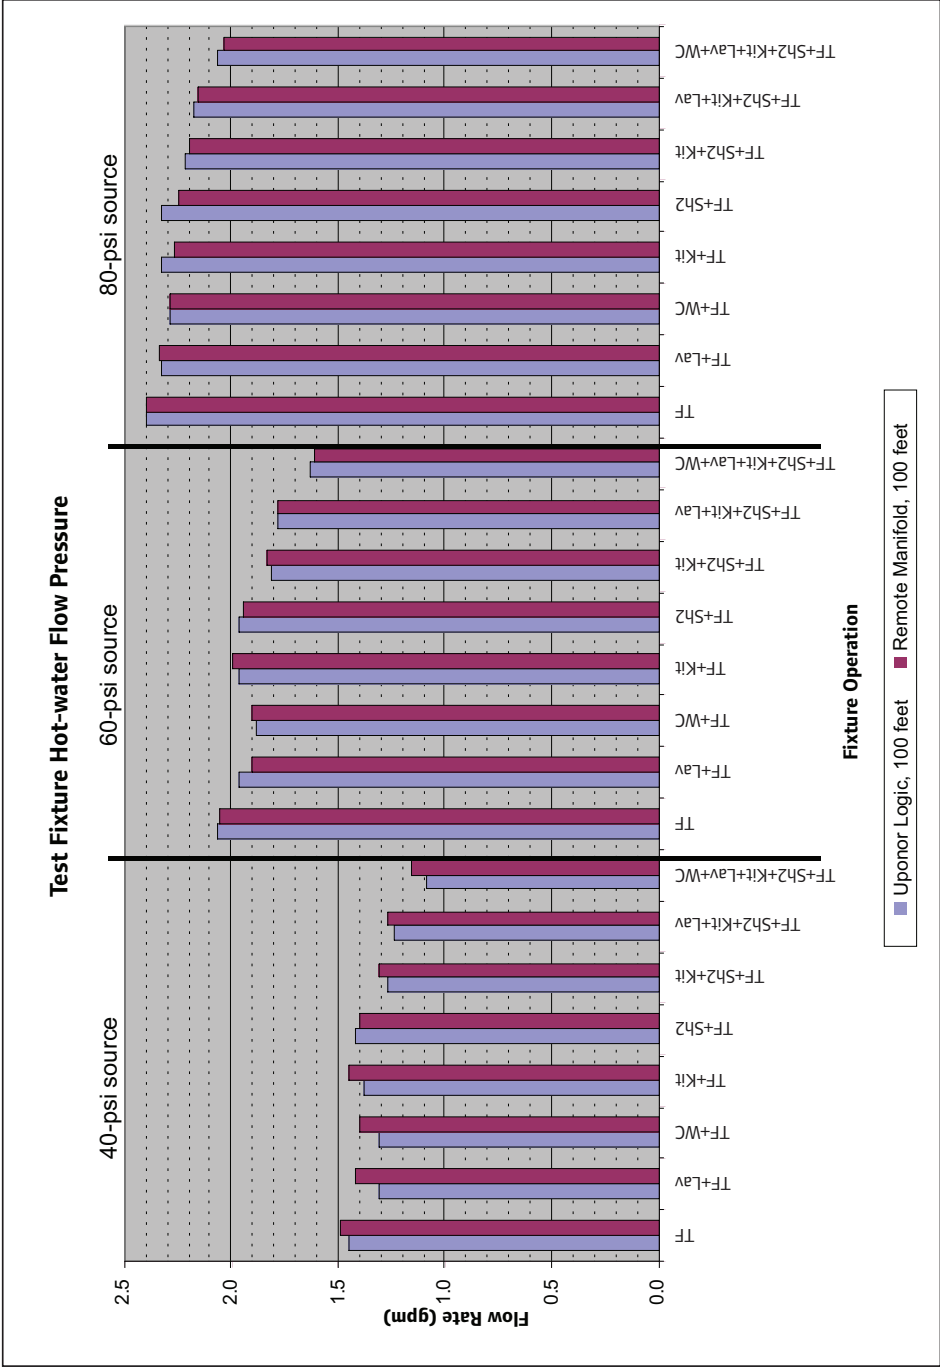
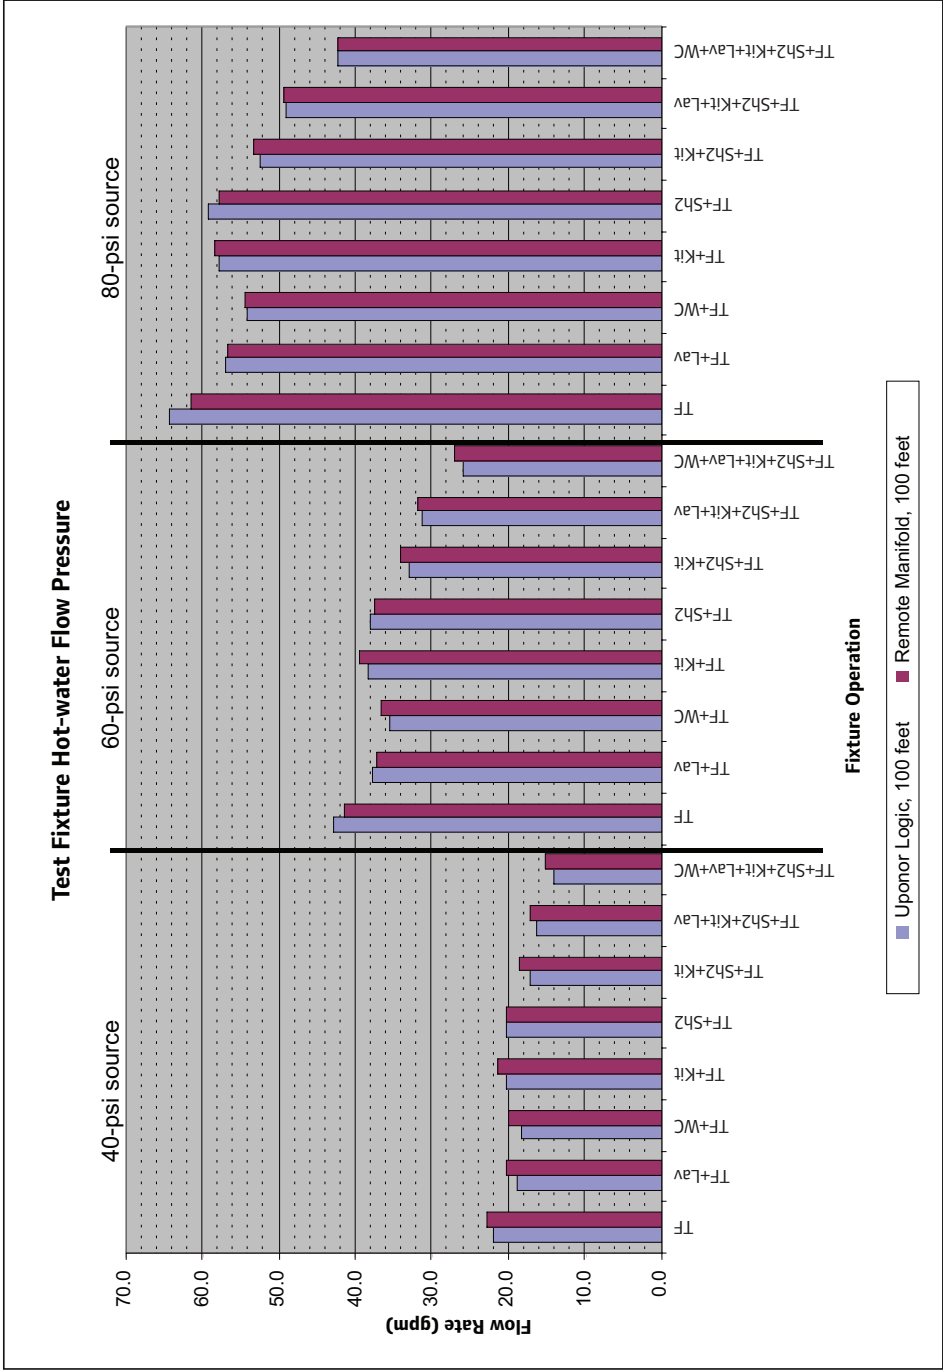

Figure 11-2: Flow-rate Comparison for Uponor Logic and Remote-manifold System Designs
Figure 11-3: Flow-pressure Comparison for Uponor Logic and Remote-manifold Designs
**Figure 11-2** (see **page 89**) charts specific data from **Tables 11-1** and **11-2**, comparing the test-fixture hot-water flow at various pressures and with simultaneous flows from other fixtures. All flow measurements are at the furthest shower fixture. Refer to the tables for the nomenclature for each of the
fixtures. Small differences in flow rates in **Figure 11-2** (see **page 89**) are a result of small differences in source pressure as indicated in **Figure 11-3** (see **page 90**).